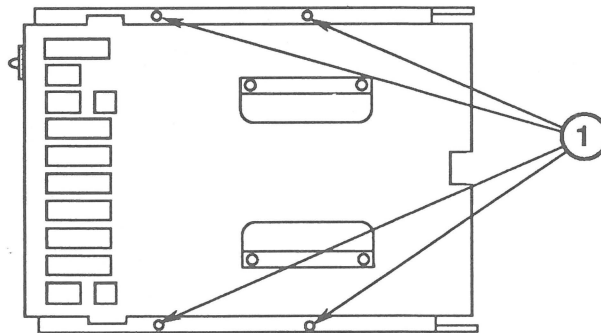

FIGURE 4
7. Turn the drive over, and remove four screws (Figure 4, #1) from the bottom edge of the metal mounting frame.